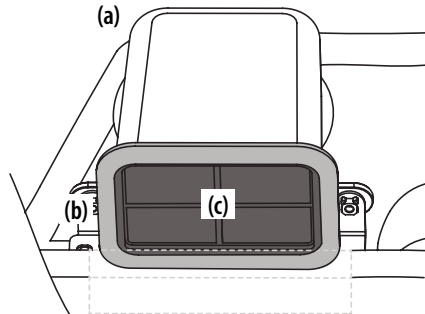

Figure 5-28
2. Remove the rubber seal (b) around the front of the air intake (a) and remove the air intake screen (c). See Figure 5-28.
3. Rinse the air intake screen (c) with water and replace the air intake screen (c) and rubber seal (b). See Figure 5-28.